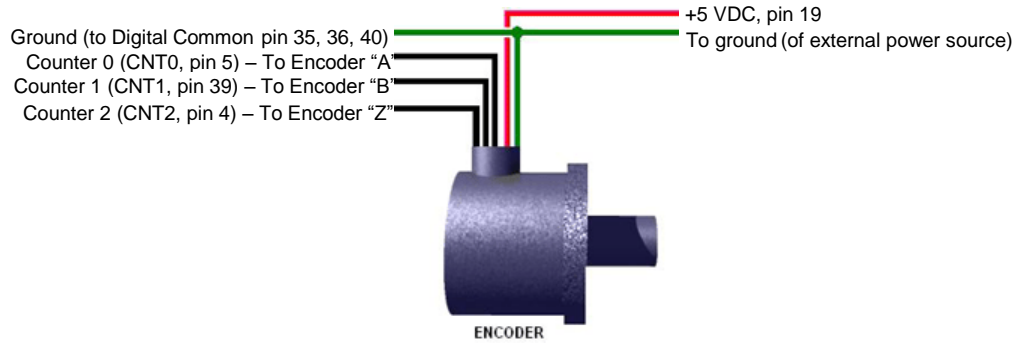

Figure 21. Encoder connections to pins on the SCSI connector\*
**Wiring to one encoder:** Figure 21 shows the connections for one encoder to a module.